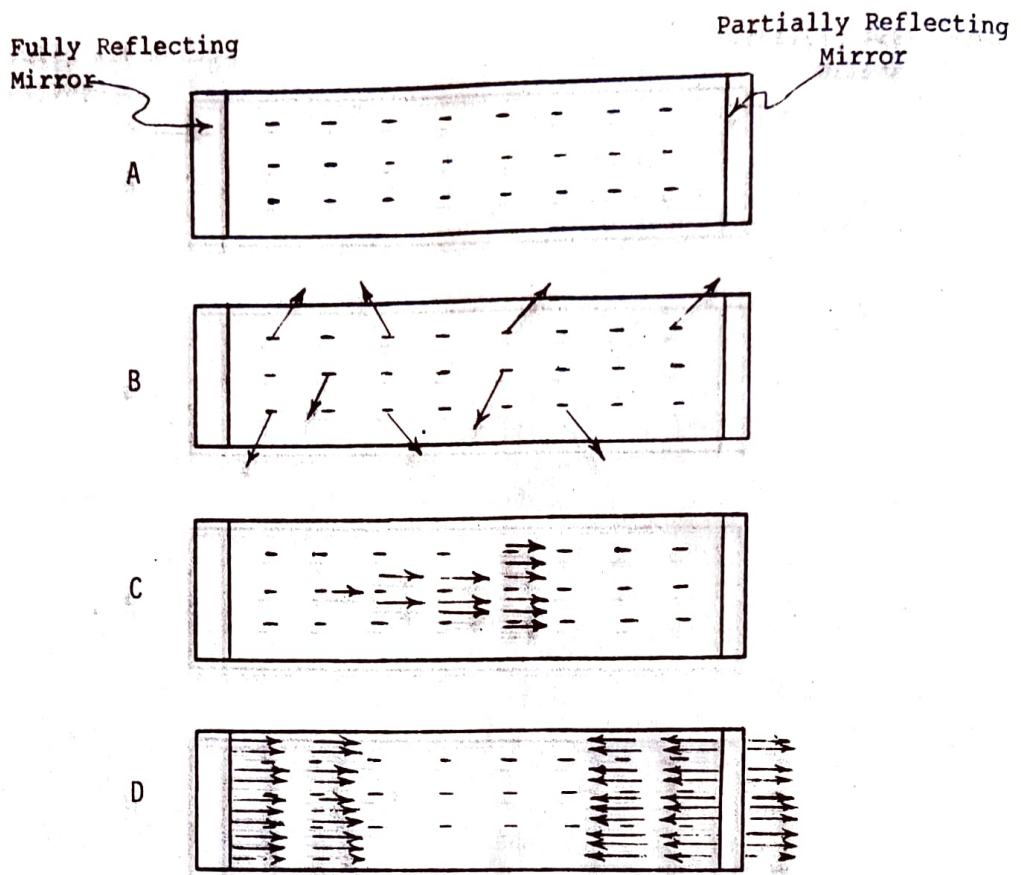

Figure 4. Buildup of Laser Action.
f. The building of laser action is shown schematically in Figure 4.
(1) The laser rod with its imbedded active material is shown with a 100 percent reflective mirror on the left and a partially reflecting mirror on the right. A strobe lamp may be used to pump up the sample into a highly fluorescent state so that a population inversion exists.
(2) Some the atoms will spontaneously emit photons and return to the ground state. These transitions will occur in random directions.
(3) When a photon is emitted parallel to the rod, it has a greater probability of stimulating emission since it will travel through more of the pumped up sample. Since each photon that strikes an excited atom stimulates the release of another photon of exactly the same energy level and continues through the sample itself, a chain reaction is started.
(4) The mirrors build up the quantity of photons through reflection and the laser beam emerges through the partially reflective mirror at one end. Each lap the photons take between mirrors knocks out new photons and the action cascades to produce an intense flash of light. Because feedback occurs only along the axis of the rod, the output is radiated only in one direction as a narrow beam of low divergence.